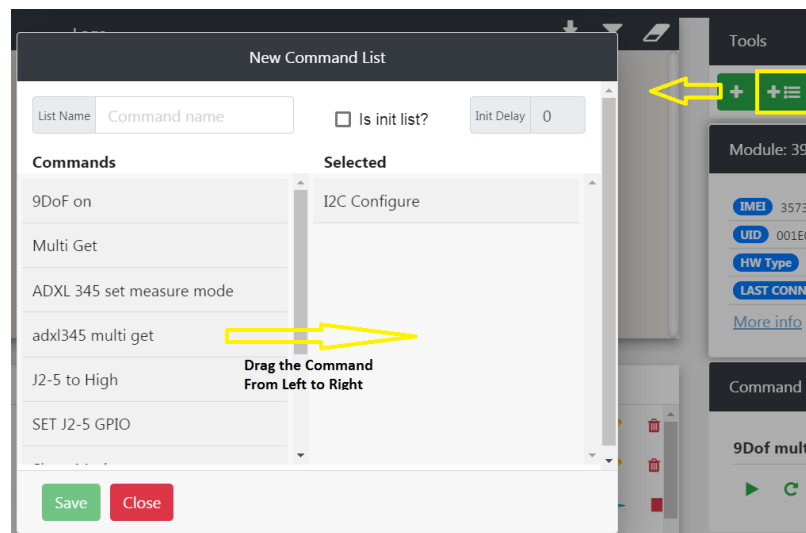

Figure 24. New Command List
8. Figure 24 shows the implementation of adding a series of sequential commands.